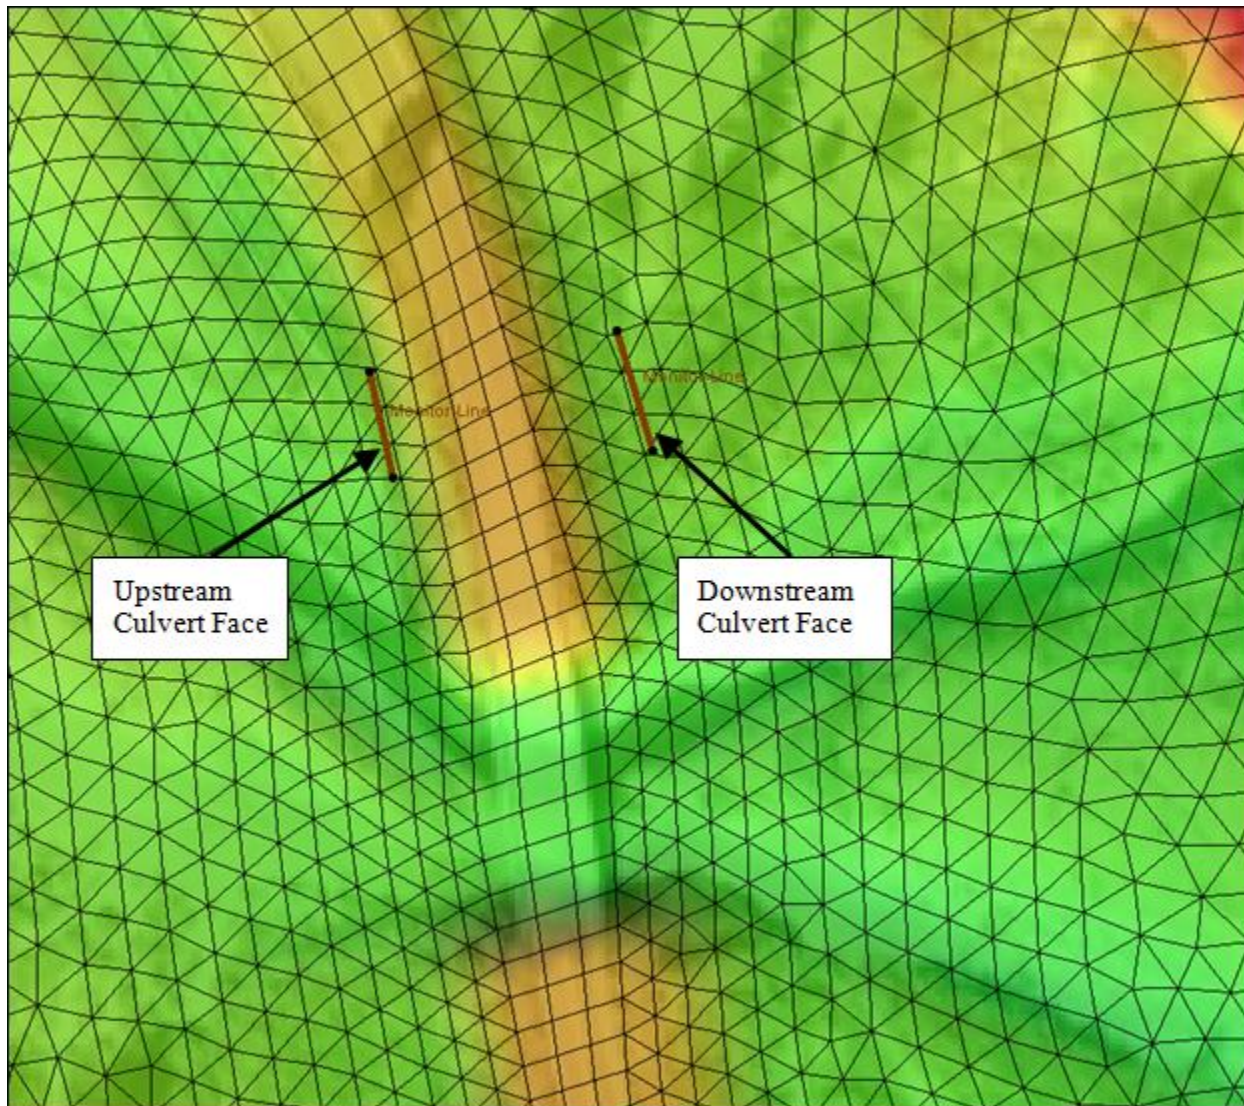

Figure 3 Upstream and Downstream BC Culvert Arcs
6. Use the **Create Feature Arc**  tool to create one arc on each side of the road. These arcs will define the upstream and downstream faces of the culvert boundary condition. The created arcs should look similar to Figure 3.